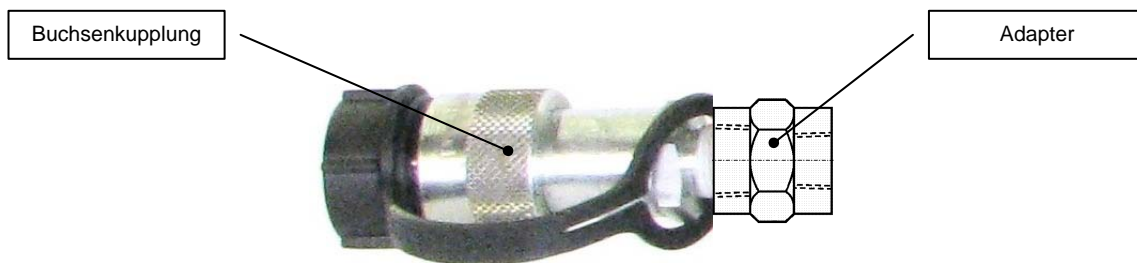

Figure 7
3. Should the tool be equipped with a male coupling the hose may be changed over to a female coupling by using an adapter (see figure 7).